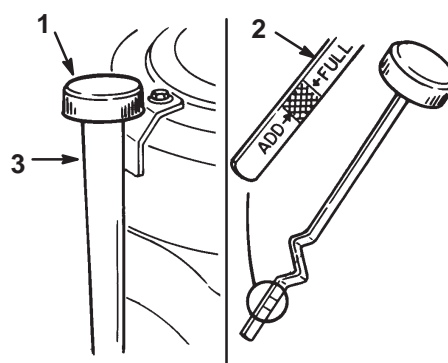

Figure 25
2. Clean around the oil dipstick (Fig. 25) so dirt cannot fall into the filler hole and damage the engine.
3. Unscrew the oil dipstick and wipe the metal end clean (Fig. 25).
4. Slide the oil dipstick fully into the filler tube, do not thread onto tube (Fig. 25). Pull the dipstick out and look at the metal end. If oil level is low, slowly pour only enough oil into the filler tube to raise the level to the full mark.
7. Slowly pour approximately 80% of the specified oil into the filler cap (Fig. 25). Refer to Servicing the Engine Oil, page 26.